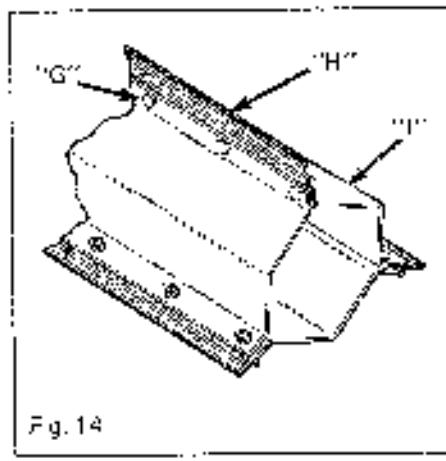

Fig. 14
1. Remove screws (G), Figure 14, that secure paddle (H) to impeller frame (I).